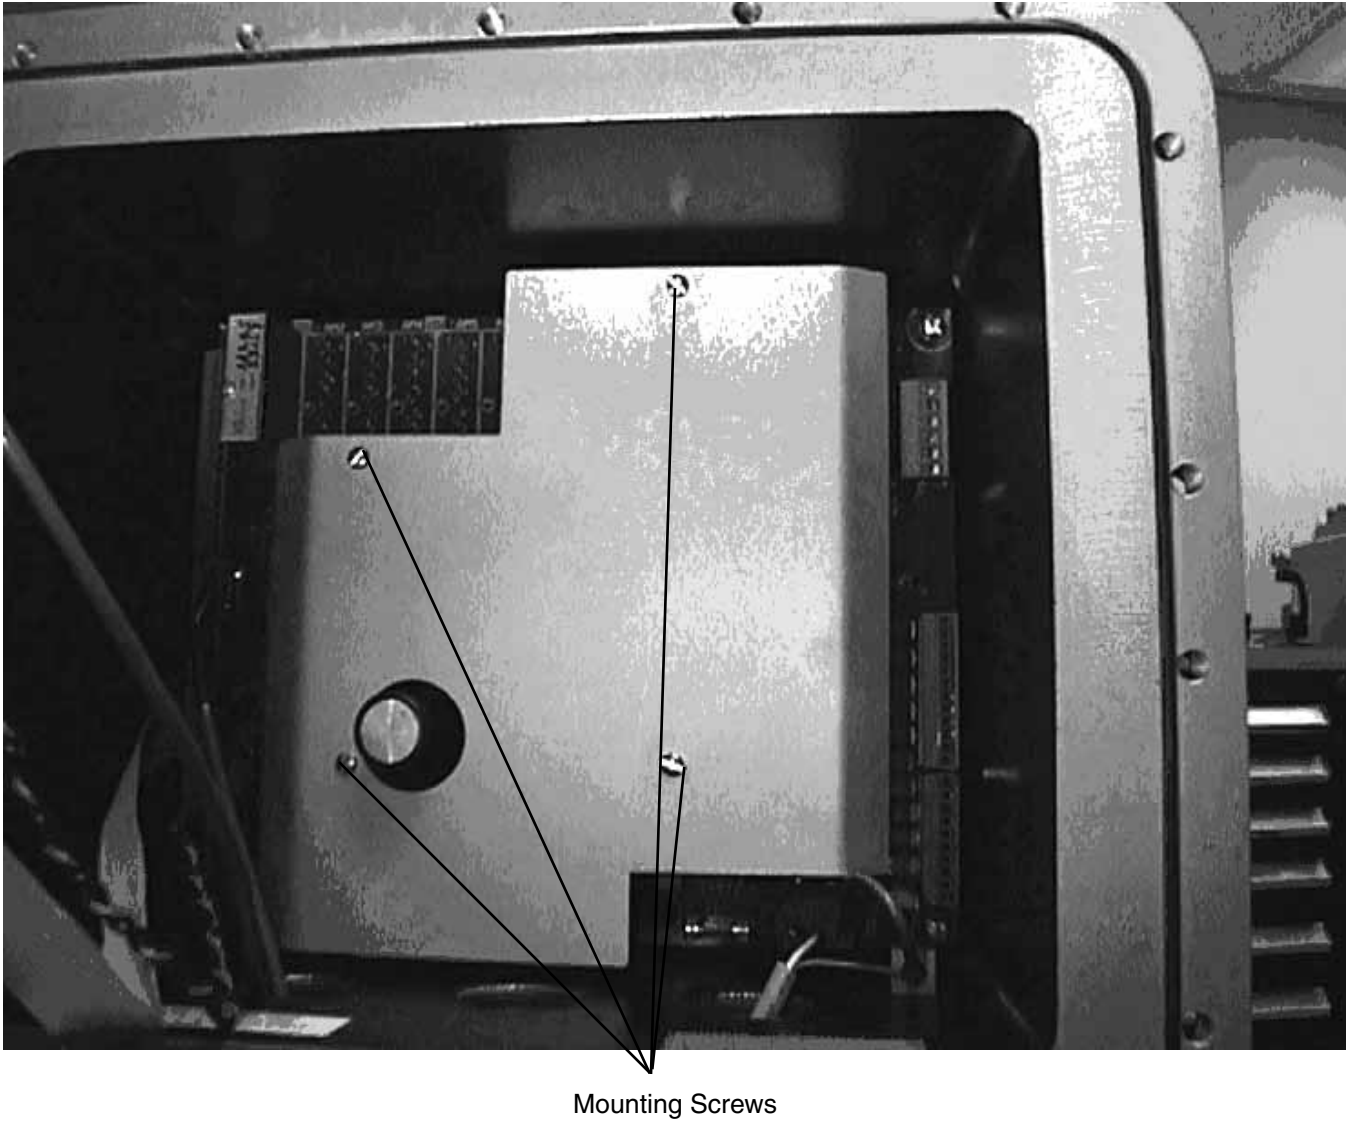

Figure 2. EAI Barrier Plate (ALIII-S hardware shown)
6. Remove the four barrier screws and the barrier plate (Figure 2) from the EAAI board located in the bottom of the housing.